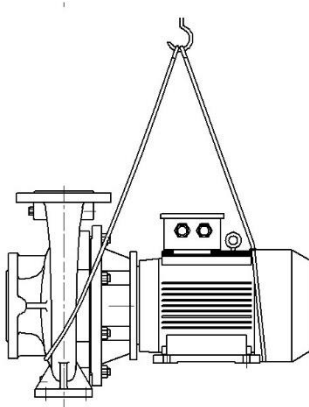

Figure 1: HESC Series
- This warranty applies against all defective materials and/or faulty manufacture for the period of **One (1) year** from the date of shipment unless specifically stated otherwise.
- When lifting or hoisting the pumps, figures 1, 2 and 3 are highly recommended: